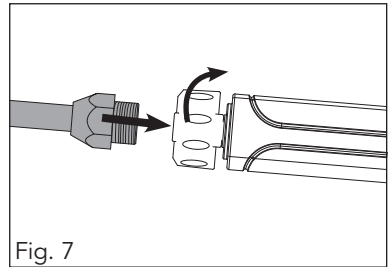

Fig. 7
1. Thread lance (4) onto spray gun (1) (fig. 7).